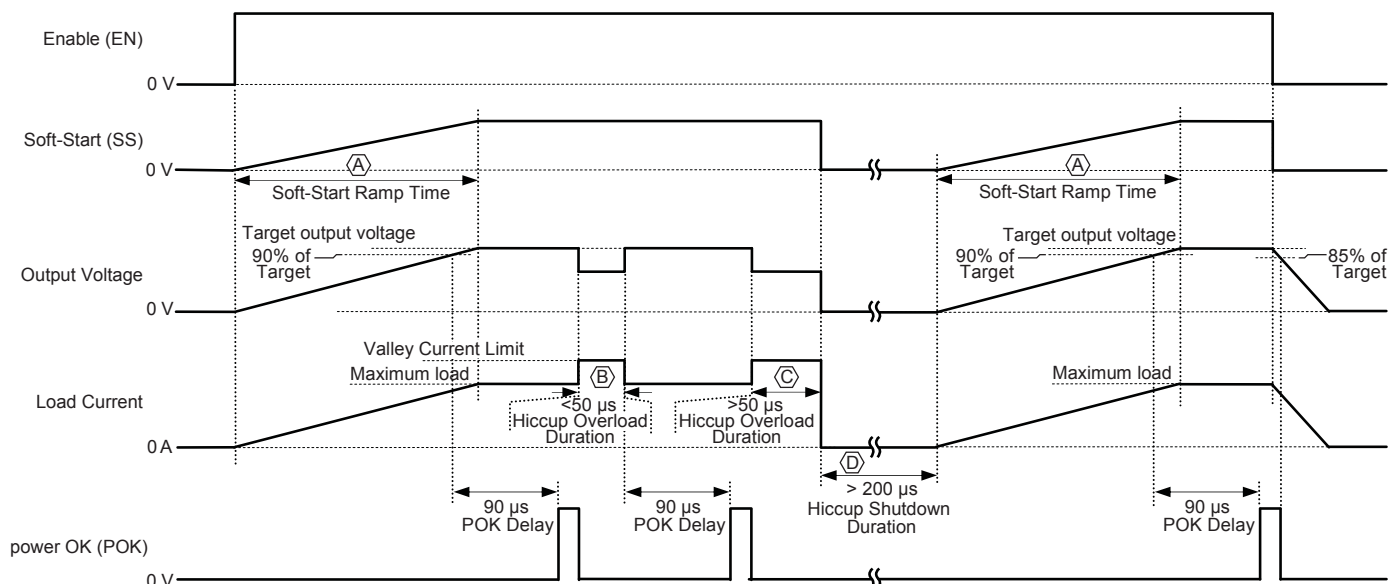

Figure 1. Operation of the soft-start function
The soft-start routine controls the rate of rise of the reference voltage, which in turn controls the FB pin, and thereby the output voltage ( $V_{OUT}$ ) (see figure 1). This function minimizes the amount of inrush current drawn from the input voltage ( $V_{IN}$ ) and potential voltage overshoot on the output rail ( $V_{OUT}$ ).
A soft-start routine is initiated when the enable pin (EN) is high, no overvoltage exists on the output, the thermal protection circuitry is not activated, and  $V_{IN}$  is above the undervoltage threshold. Immediately after EN goes high, the soft-start capacitor is charged via an internal 10  $\mu$ A source and PWM switching action occurs. During the *Soft-Start Ramp Time* (see A in figure 1), the reference is ramped from 0 up to 0.6 V, and the output voltage ( $V_{OUT}$ ) tracks the reference voltage. The POK flag is held low until the output voltage reaches 90% (typical) of the target voltage and a delay of 90  $\mu$ s (typical) occurs.
drops below 85% (typical) of the target voltage, the POK flag goes low. If the overload occurs for shorter than the *Hiccup Overload Duration* (<50  $\mu$ s; B in figure 1), the output will automatically recover to the target level. If the overload occurs for longer than the *Hiccup Overload Duration* (>50  $\mu$ s; C in figure 1), the regulator will shut down, the soft-start capacitor will be discharged, and (assuming no other fault conditions exist and the enable pin is still high) the regulator will be delayed by the *Hiccup Shutdown Duration* (D in figure 1).